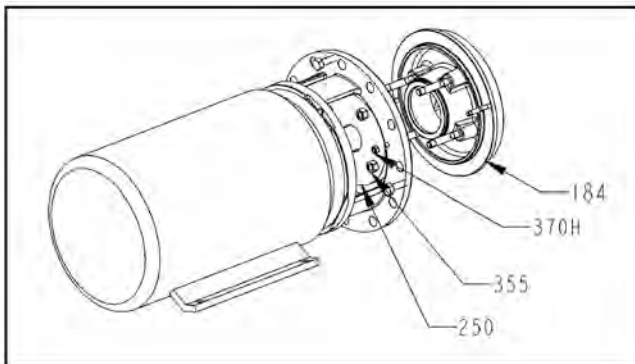

Figure 70:
32. Install the gland (107) with hex nuts (355).
33. Install stuffing box cover (184) with nuts (370H) (Fig 70).